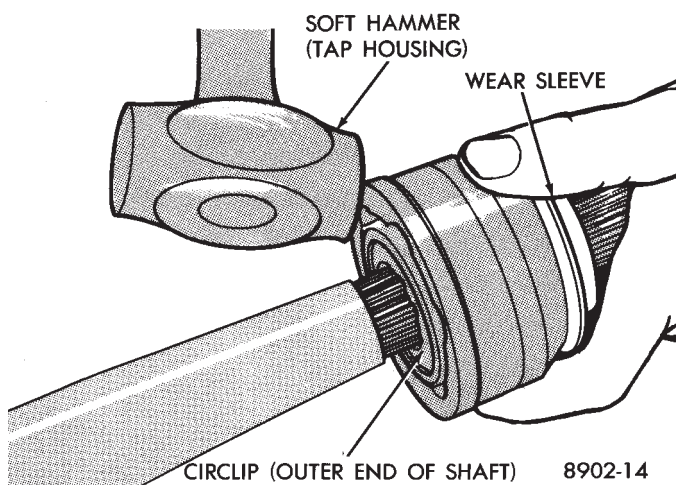

Fig. 10 Joint Removal
(3) Clamp the shaft in a vise (with soft jaws). Give a sharp tap to the top of the housing to dislodge joint from internal circlip. Slide the joint from the shaft. (Fig. 10).